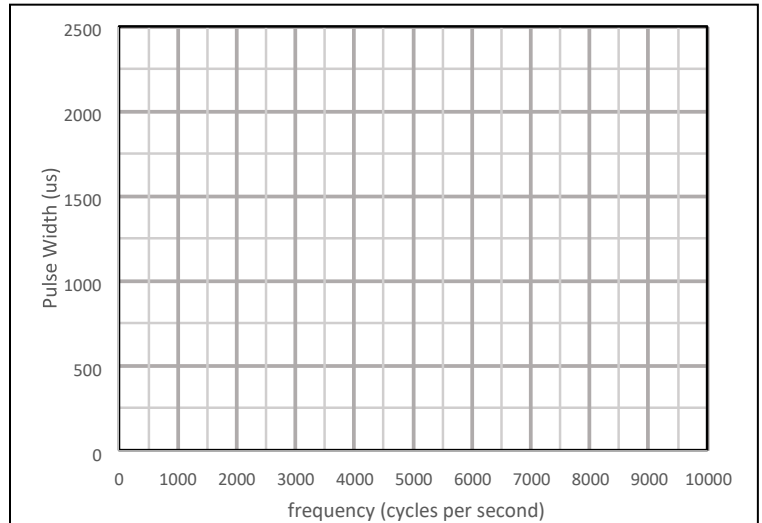

Fig 19 Relation between frequency and pulse width
- Set $\square f$ close to 0.5 kHz and measure the width of the pulse. Record in Table 3 and place the point on the blank graph of Figure 19.